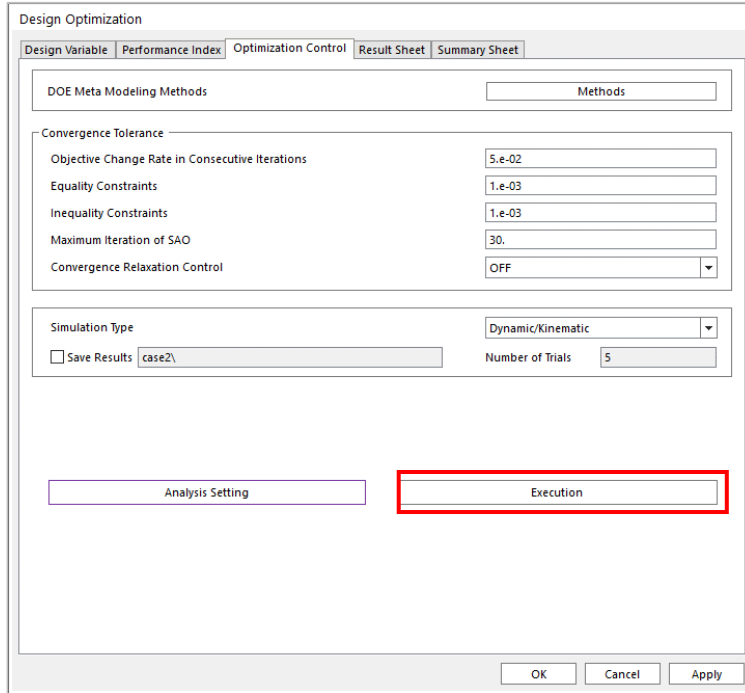
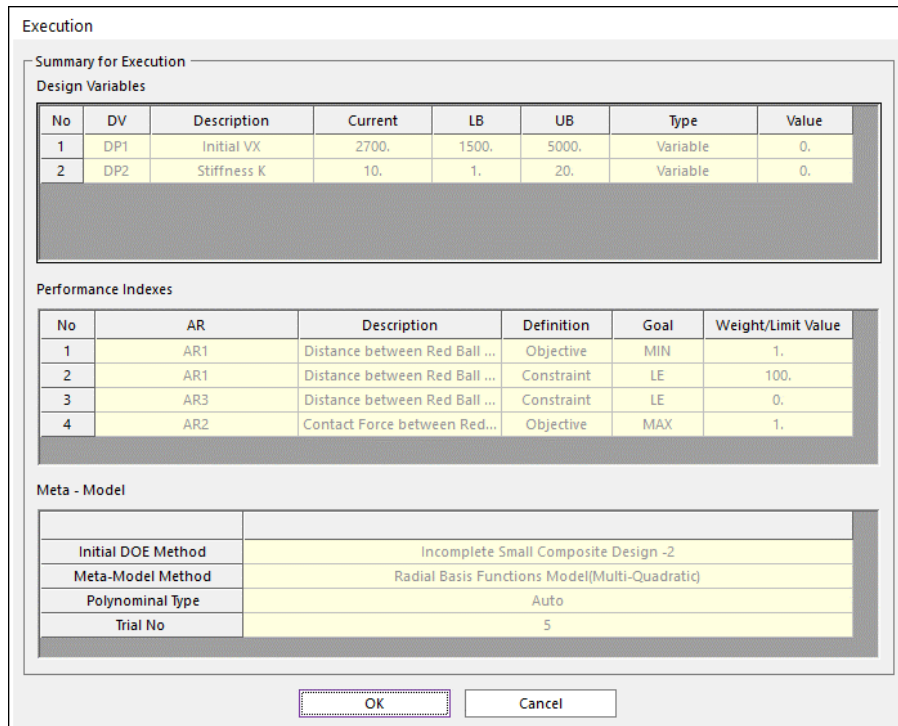

Figure A-5-4 Control option definition for optimization and analysis
Figure A-5-5 Summary of design optimization formulation
- Define the option of optimization control and execute analysis shown in the Figure A-5-4. The analysis setting is the same that of Design Study. Finally, if you push the optimization button, you can see the summary of the design optimization formulation shown in Figure A-5-5. Then, check your formulation. If you see some mistakes, then push the **Cancel** button and correct the mistakes. Otherwise, push the **Execution** button. Then, **AutoDesign** runs until convergence criteria are satisfied or maximum iteration is reached. During optimization process, you can see the analysis results in the **Simulation History** menu.